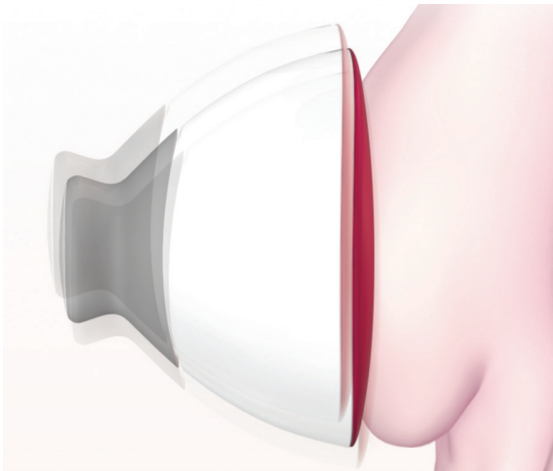

Fig. 8: Improperly applied device
- do not move the device across the patient's breast, instead hold it firmly in one place **(see Fig. 8)**;